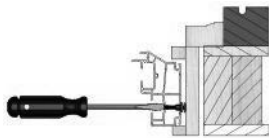

FIG. 15
- C) **Double hung only:** Adjust jamb jacks at jamb center until measurement across center equals measurements across head and sill. (Fig. 15)